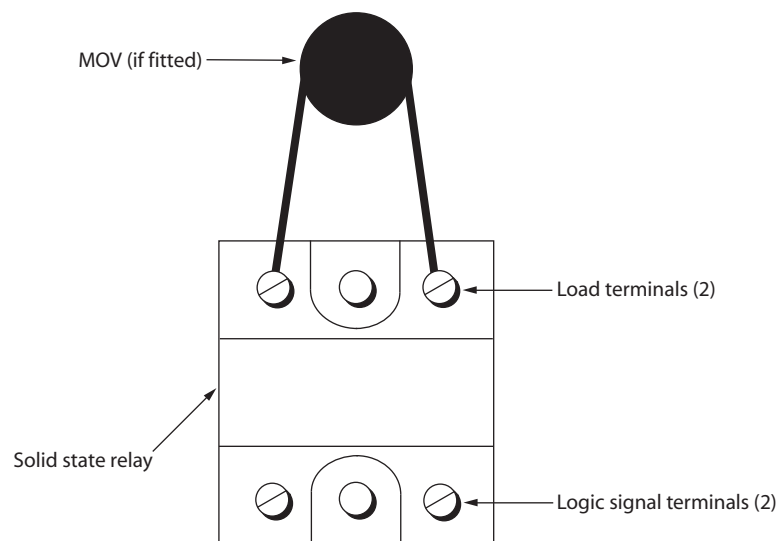

Fig. 6 Connections to solid state relays
- 6) Refit the wires as noted in step (iii). If the replacement solid state relay is supplied with a metal oxide varistor (MOV) it must be connected between the load terminals as shown in Fig. 6. It is not polarity dependent. The MOV protects the SSR from short periods of excess voltage. If the replacement SSR is supplied without an MOV this is because later versions have the MOV built in.